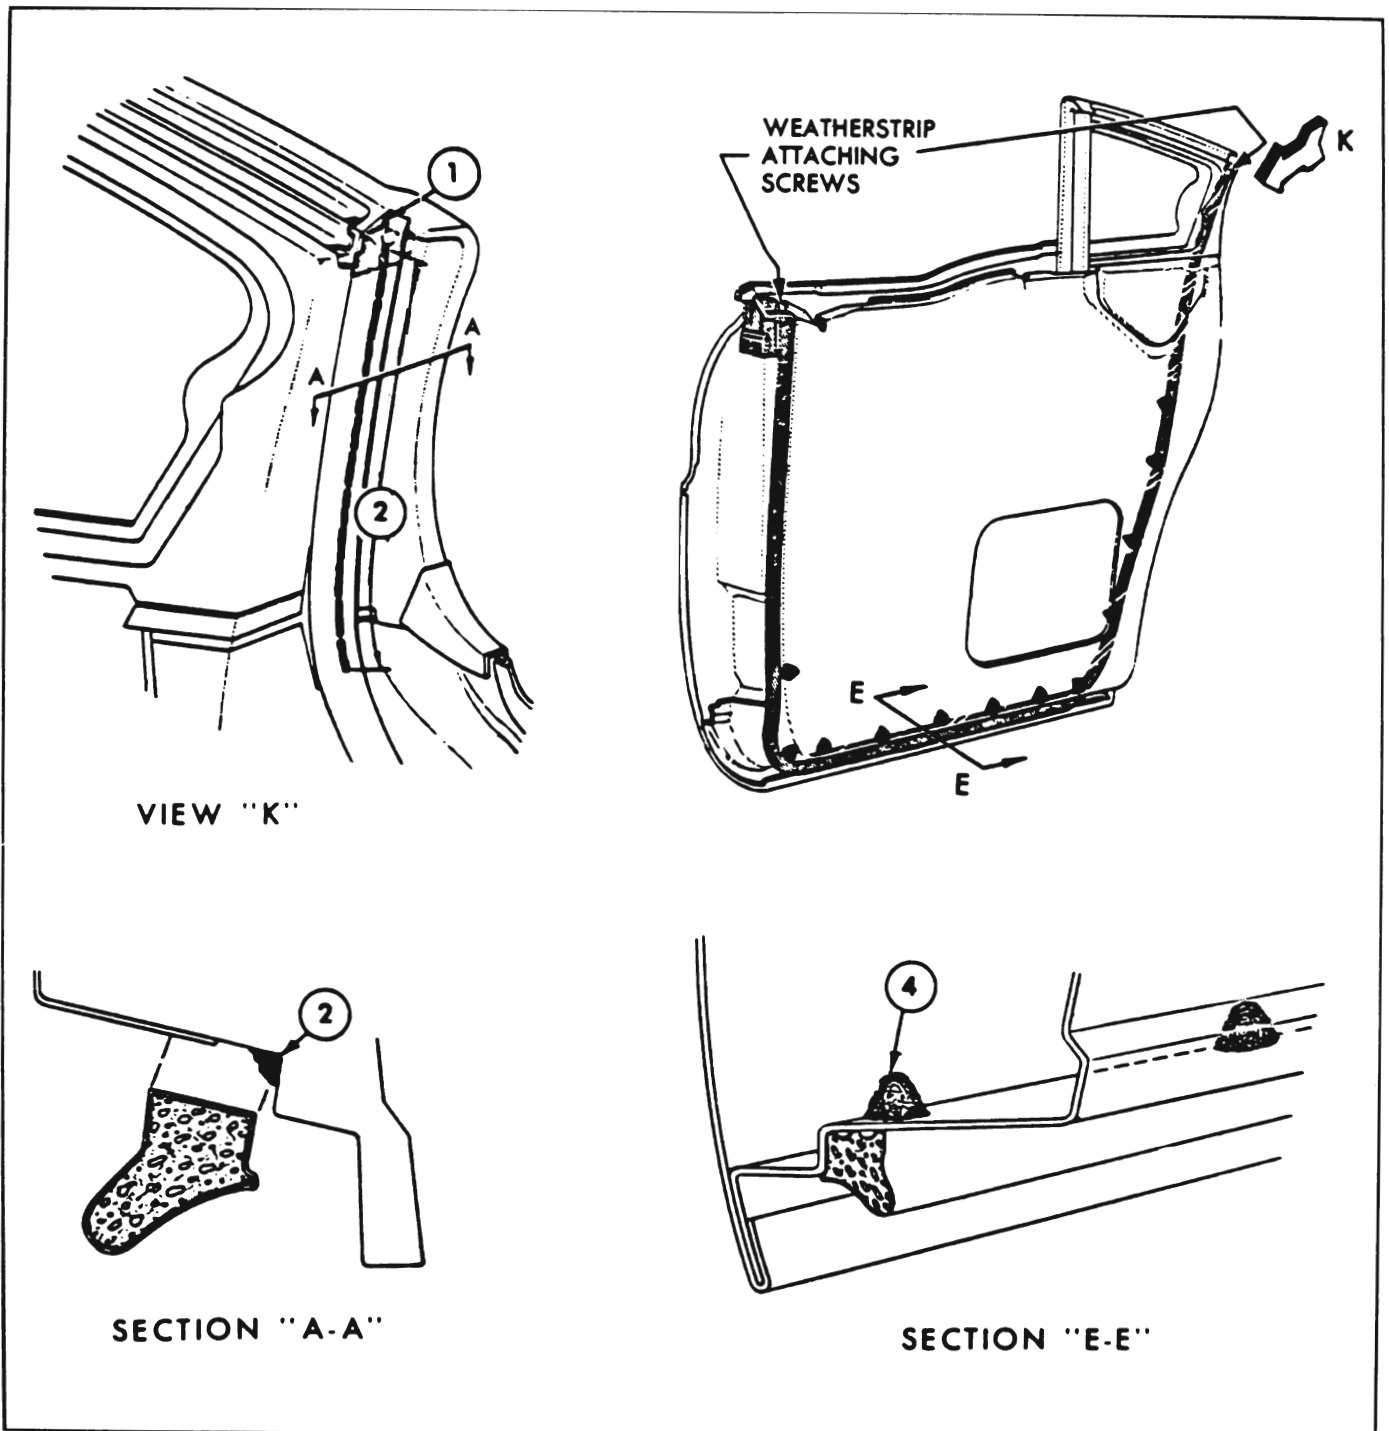

Figure 13-193—Rear Door Weatherstrip
3. On rear doors apply on approved weatherstrip cement at the top of the ventilator, as indicated at "1" in VIEW "K" — cement should extend slightly below drain hole at upper corner of ventilator. Apply a bead of cement beginning at ventilator drain hole and extending downward to just below the first weatherstrip attaching clip hole, as indicated at "2" in VIEW "K" and SECTION "A-A". (See Figure 13-193).